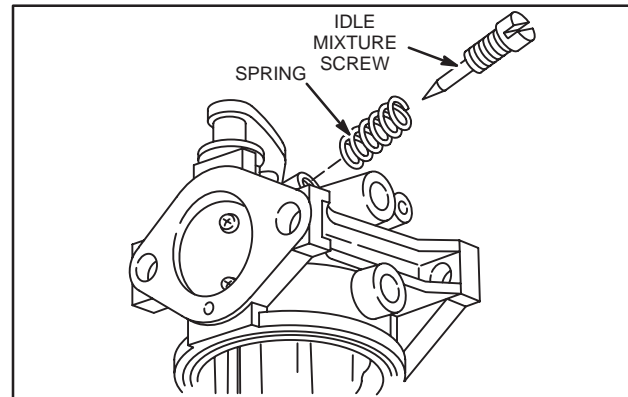

Fig. 20 – Install Idle Mixture Screw
6. Install idle mixture screw and spring, Fig. 20.